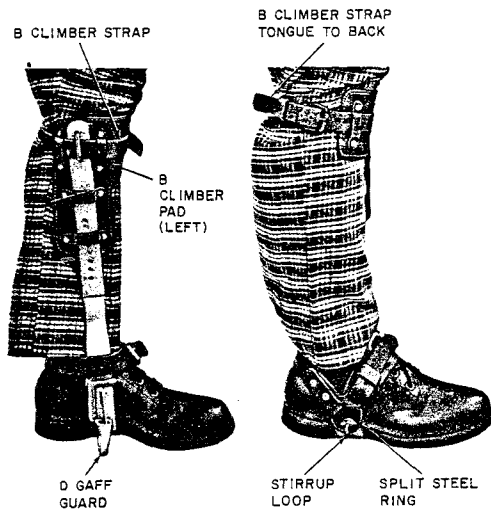

Fig. 10—Climber Strapped to Leg
(5) Strap the climber to the leg as shown in Fig. 10 to see if it feels comfortable. Climbers should be adjusted to the maximum length which is most comfortable.
(6) If the climber feels comfortable, remove the climber and add the second screw (see paragraph 3.09) and tighten both screws to hold the sleeves securely. If uncomfortable, move the screws up or down one hole on the sleeves as required to find the most comfortable position.
(7) Repeat the procedure for the other climber.